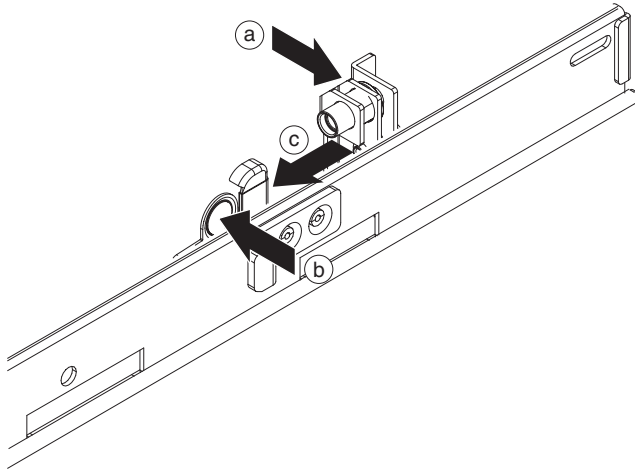

Figure 4. Rear rail attaching to the rack frame
2. Insert the left rear of the rail into the rack frame. You can adjust the length of the rail by sliding the rear mounting mechanism back and forth to align it to your rack. When you release the locking mechanism, the whole mounting mechanism then slides on the rail, as shown in Figure 4 on page 14.